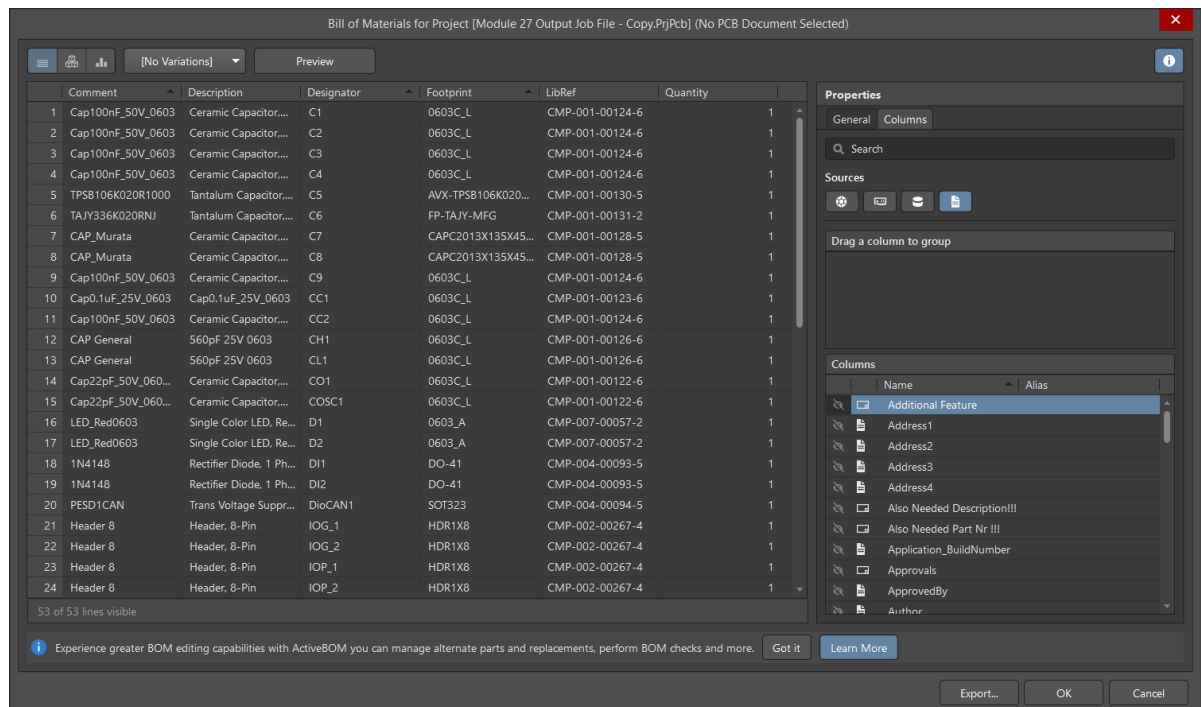

Figure 1. Bill of Materials dialog window
9. To generate a Bill of Materials (BOM), we can go to **Reports » Bill of Materials** from the schematic environment. The BOM dialog will appear as shown in Figure 1.